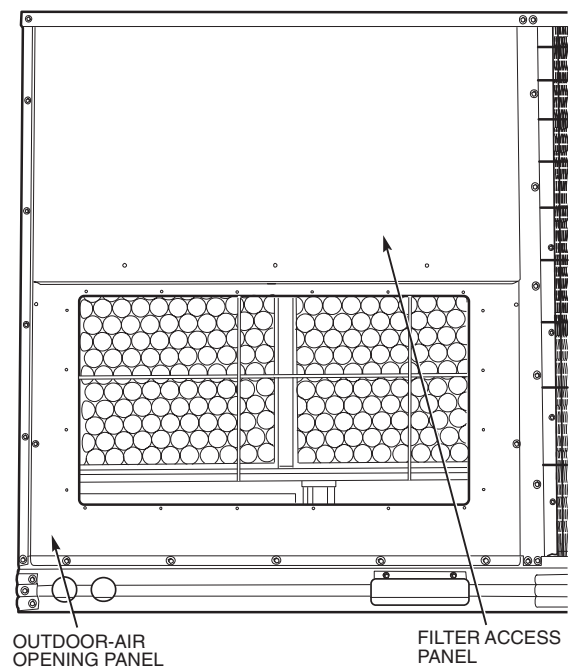

Fig. 23 — Typical Access Panel Locations
- To remove the existing unit filter access panel, raise the panel and swing the bottom outward. The panel is now disengaged from the track and can be removed. Remove the indoor coil access panel and discard. See Fig. 23.